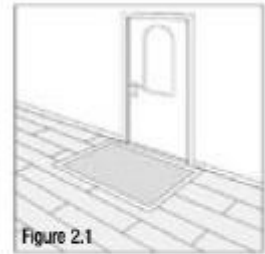

Figure 2.1
- ❖ Use floor mats at all entrances to help keep dirt and moisture from being tracked in (Figure 2.1). Area rugs are recommended in high traffic areas and all sinks. Mats and area rugs should be slip resistant with backing that will not discolor the floor.